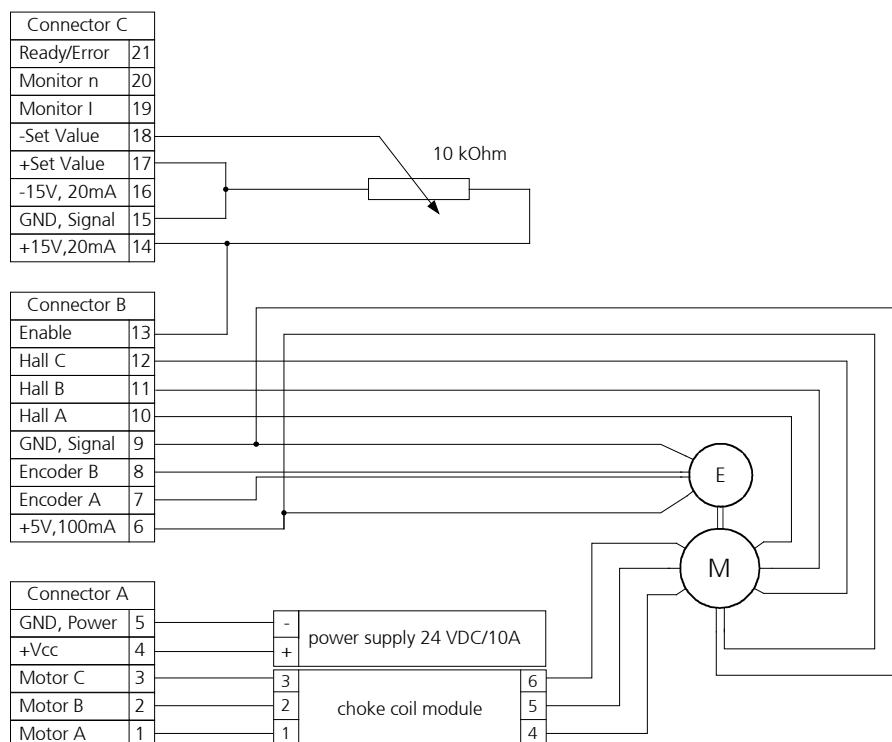

Figure 39
1. Connect the motor cables with a motor control unit (see Figure 39).